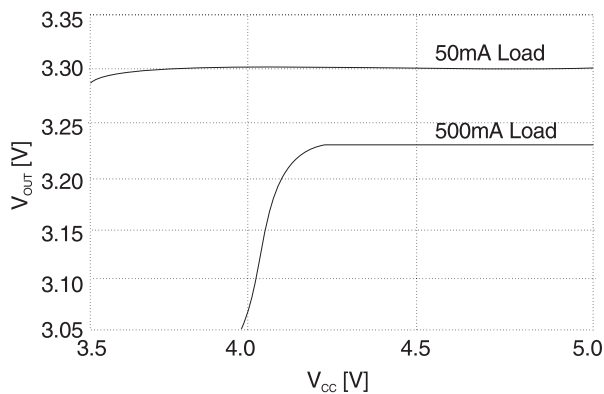

Figure 1. Dropout Characteristics.
**Dropout Characteristics** of the regulator are shown in Figure 1. At maximum rated load conditions (500mA), a 100mV drop in regulation occurs when the line voltage collapses below 4.1V. For light load conditions (50mA), regulation is maintained for line voltages as low as 3.5V.